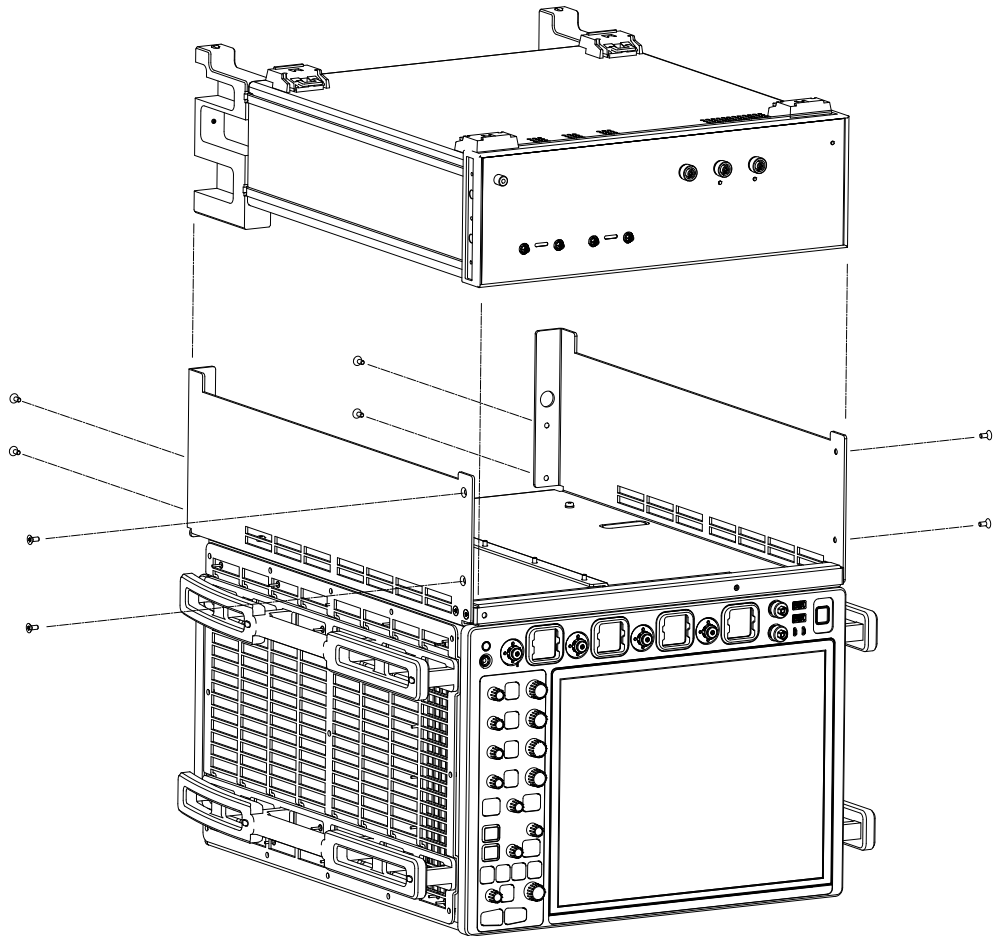

Figure 4 Combining oscilloscope and coherent receiver unit
- 1 Position the coherent receiver unit in between the brackets with the front flush to the bracket. Insert all 8 screws: M4x0.7 10mm, part number 0515-2044, torque 3 Nm (26-in-lb), according to Figure 4, but do not yet tighten them.